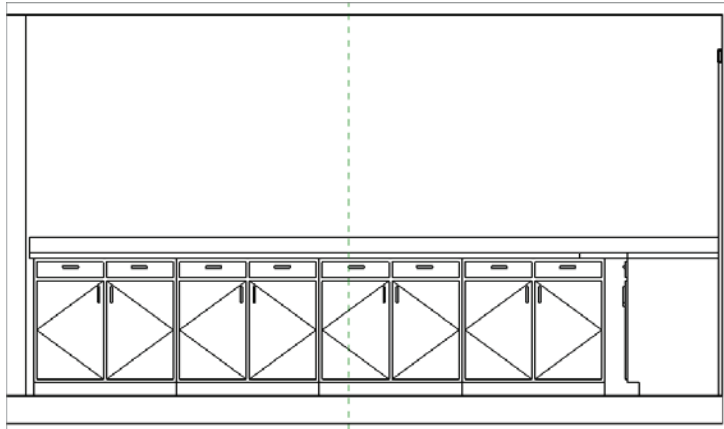

FIGURE 9.62 The base cabinet run
9. Copy the base cabinet to the right three times (four total cabinets), as shown in Figure 9.62.